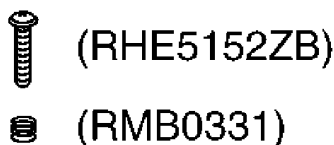

Fig.5
- Please replace both azimuth adjustment screws (RHE5152ZB) and springs (RMB0331) simultaneously when readjusting the head azimuth. (Shown in Fig.5). Even if you wish to readjust the head azimuth without replacing the screws and springs, a fine adjustment cannot be done because of the screw-locking bond adhered to the azimuth screw and spring.